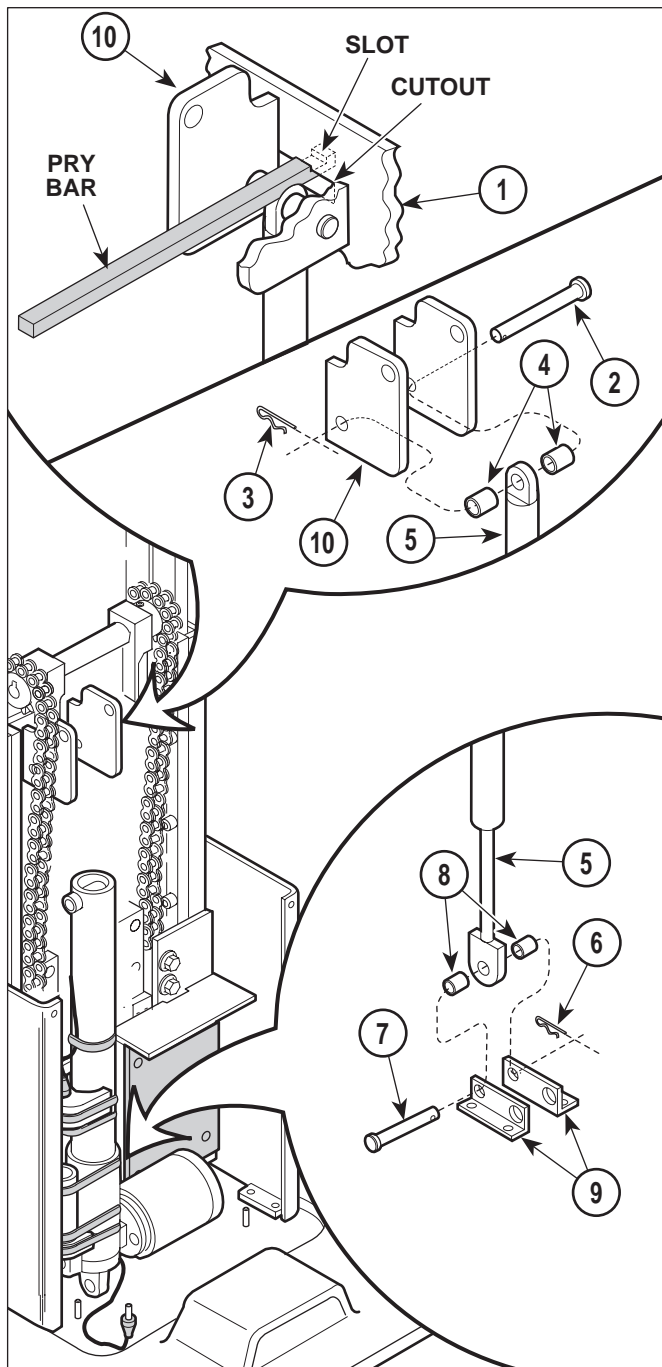

Figure 4-21. Gas Spring(s) Removal / Installation
- (9) While holding shaft of base actuator (11) stationary (so it cannot rotate), lower TABLE DOWN function until base actuator is fully retracted.
- (10) Insert slot of pry bar in cutout of middle member assembly (1, Figure 4-21). See Table 1-2 for special tool.
- (11) While pressing down on end of pry bar to relieve pressure from clevis pin (2), remove pin clip (3), clevis pin (2), and two spacers (4). Then, slowly raise up on pry bar until gas spring(s) (5) are fully extended and are no longer under tension. Remove pry bar.
- (12) Remove pin clip (6), clevis pin (7), spacer(s) (8), and gas spring(s) (5) from bracket (9).
- (1) Install rod end of gas spring(s) (5, Figure 4-21) on bracket (9) and secure with clevis pin (7), spacer(s) (8), and pin clip (6).
- (2) Insert slot of pry bar in cutout of middle member assembly (1).
- (3) While pressing down on end of pry bar to align gas spring(s) (5) with bracket (10), install two spacers (4), clevis pin (2), and pin clip (3) to secure gas spring(s) to bracket. Remove pry bar.